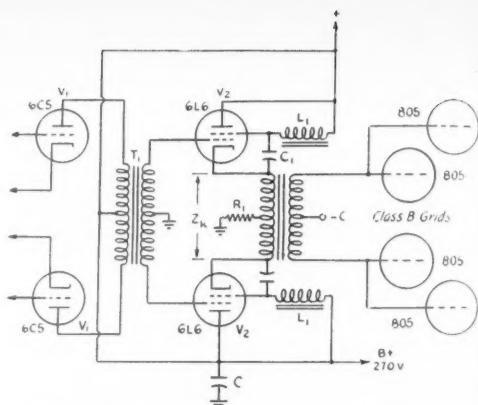

Fig. 5 — Circuit for beam-tetrode push-pull stage with cathode coupling.
nected in cascade in one envelope but may be treated as one tube for design purposes. Fig. 5 is an example of the use of beam tubes, such as the 6L6 or 6Y6, with a standard-type Class-B input transformer. These two circuits are the most practical and a step-by-step design will be made for each. The use of the push-pull cathode-follower stage modifies the gain formulas given in Eq. (2) for triodes and Eq. (4) for pentode or beam tubes. The gain formula for push-pull triodes is given by
The circuit of Fig. 5 might be used to drive four 805s in push-pull parallel. In that case the peak load across half the secondary of T_2 would be 2500 ohms and the recommended plate-to-plate load for the 6L6s operating Class A with 270 volts on the screen and plate is 5000 ohms. Therefore the impedance ratio of the transformer again would be 2 to 1, primary to one-half secondary.